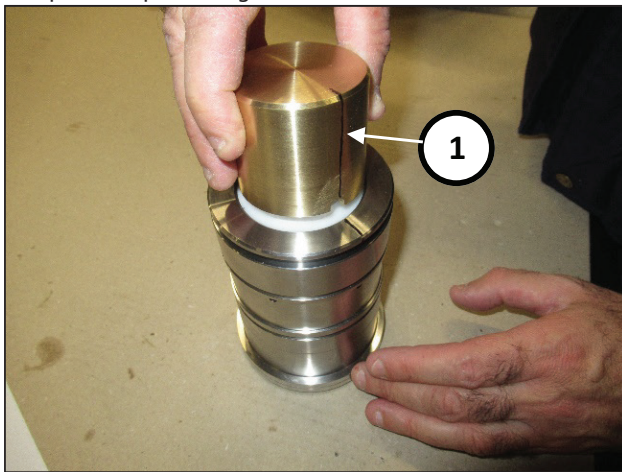

Fig. 179
Use the inner buffer of tool no. 27945400 to push the rings into position (pos. ①, Fig. 179).